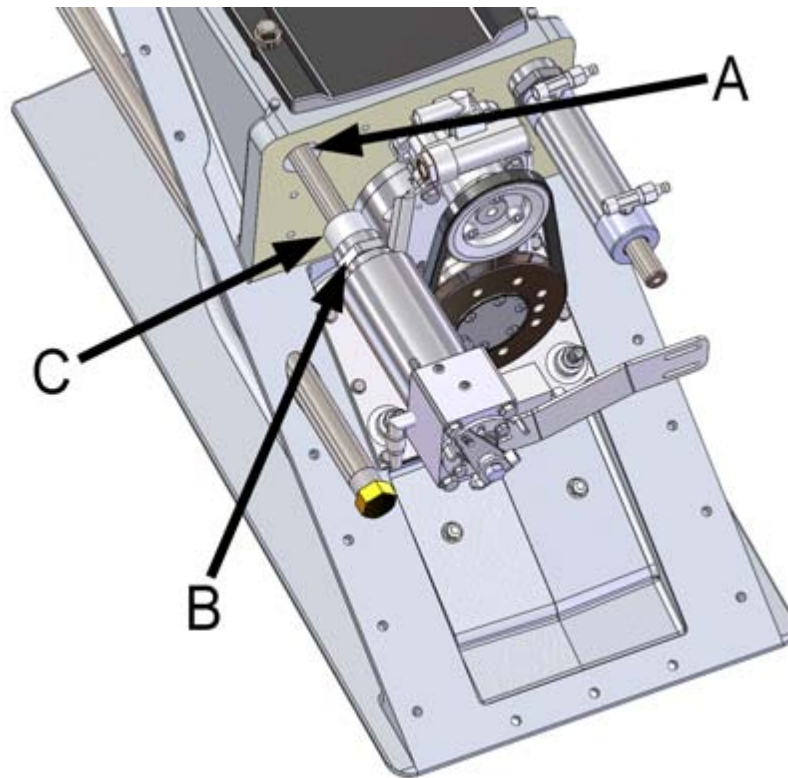

Figure 65. Installing the cylinder
1. Clean the cylinder attachment hole and thread in the body (figure 65, point A).
2. Screw the locking nut on the thread onto the end of the cylinder in the correct position (figure 65, point B).
3. Screw the cylinder onto the threads in the body. It is a good idea to apply lubricant on the thread (figure 65, point C).